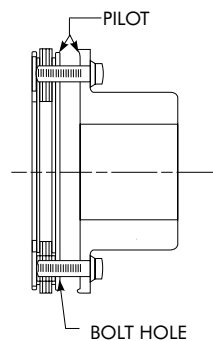

Figure 8A
2. Insure that the pilots are clean and burr-free. Install all the bolts through hub flange bolt holes. (See Figure 8A.) Refer again to the assembly drawing for axial shim locations, if any, and install shims as necessary to obtain the proper axial spacing. (See Note 2, Page 5.)